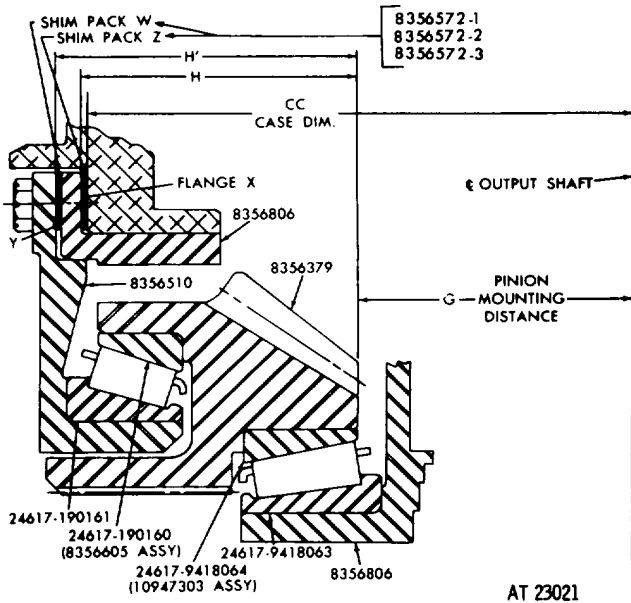
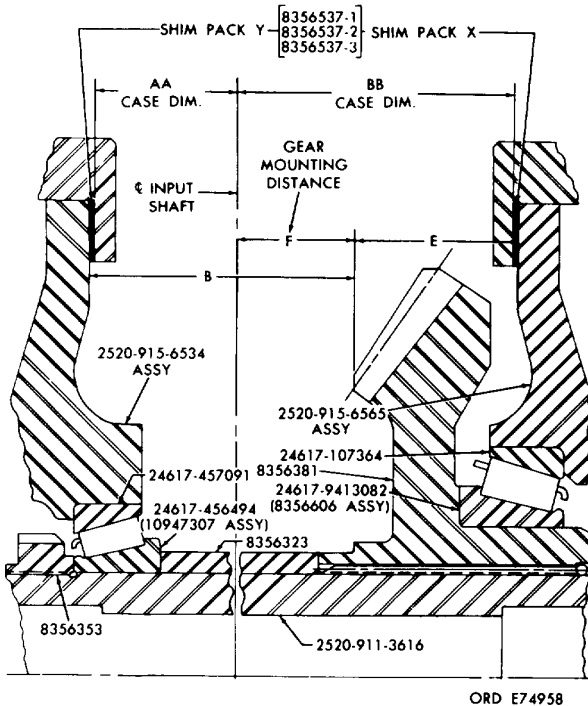
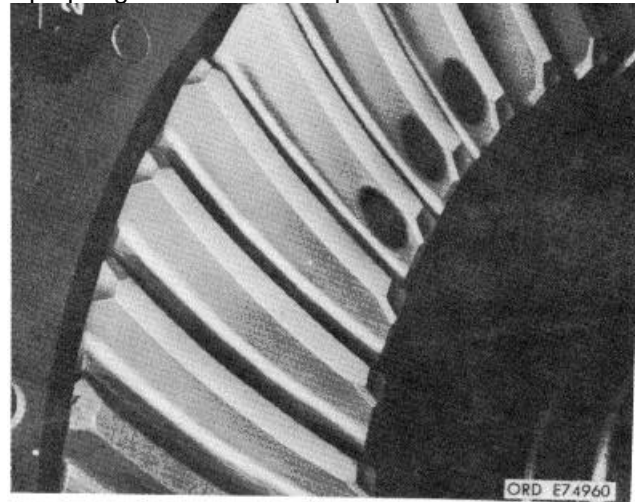

Figure 8-2. Nominal shims for bevel drive gear support and carrier.
Figure 8-4. Nominal shims for bearing retainers.
Figure 8-6. Gear tooth contact pattern-no load.
a. Nominal shim W (fig. 8-2) establishes approximately zero end play of the bevel drive gear within its carrier and support.
a. Nominal shim Z (fig. 8-2), positions the bevel drive gear in approximately the correct relation to the bevel driven gear's installed position.
- e. Measure and record the vertical distance B (fig. 8-4) from the outer flange surface of the retainer to the lower surface of the teeth on the driven gear.
- f. Calculate shim pack Y (fig. 8-4) by substituting dimensions for B, F and AA in the formula $Y = B - F - AA$.
- g. Select the combination of shims 8356537 1, 8356537 2 and 8356537 3 which will most nearly equal Y (fig. 8-4). Install the shims and left bearing retainer into the bevel gear housing left side (para 8-11, step 4, below).
- c. Measure and record the vertical distance E (fig. 8-4) from the outer flange surface of the retainer, to the upper end surface of the teeth on the driven gear.
- d. Calculate shim pack X (fig. 8-4) by substituting dimensions for E, F and BB in the formula $X = E + F - BB$.
- f. Install the shaft and gear assembly into the bevel gear housing. Install shims X (fig. 8-4) and the right bearing retainer (refer to para 8-11, step 2, below). Rotate the driven gear while tightening the retainer bolts. Check for torque required to slowly rotate the cross shaft while tightening the bolts (use a pound inch torque wrench and socket wrench 28, table 3-1, para 8-11, step 6, below).
- g. If torque exceeds 2 pound inches when the right retainer is tight, remove the left retainer and add shims to shim pack Y (fig. 8-4) until torque does not exceed the limit.
- h. End play of the cross shaft should not exceed 0.0015 inch when both bearing retainers are tight but may be zero if the torque does not exceed 2 pound inches. Shims are removed from shim pack Y (fig. 8-4) (at left bearing retainer) to reduce end play.
preload are properly adjusted, install shim pack Z (fig. 8-2) (determined in para 8-5, above) and the bevel drive gear assembly into the bevel gear housing. Tighten the bolts which retain the assembly. Check the free rotation of the bevel gears (para 8-11, step 8, below).
pattern and compare it with the patterns shown in figures 8-6 and 8-7. Readjust shims X and Y (fig. 8-4), and Z (fig. 8-2), as required, to establish the proper pattern. Recheck the backlash. Figure 8-7 illustrates the proper gear tooth contact pattern under full load.